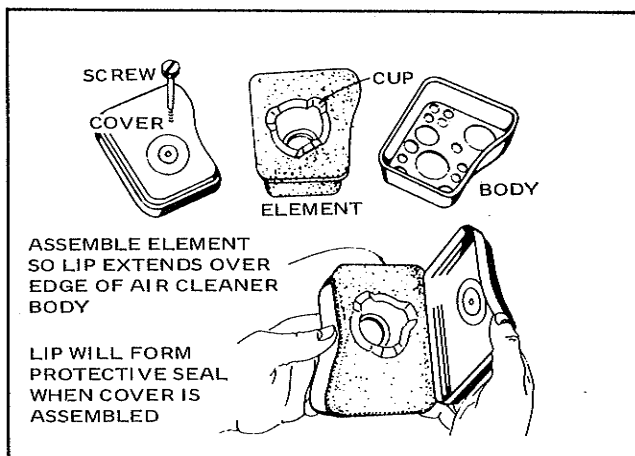

Figure 19.
2. See Figure 19. Clean air cleaner and re-oil element. The air cleaner normally need not be cleaned for a full season unless tilling is done under extremely dusty conditions. Clean every few hours under extremely dusty conditions. Clean air cleaner as follows: